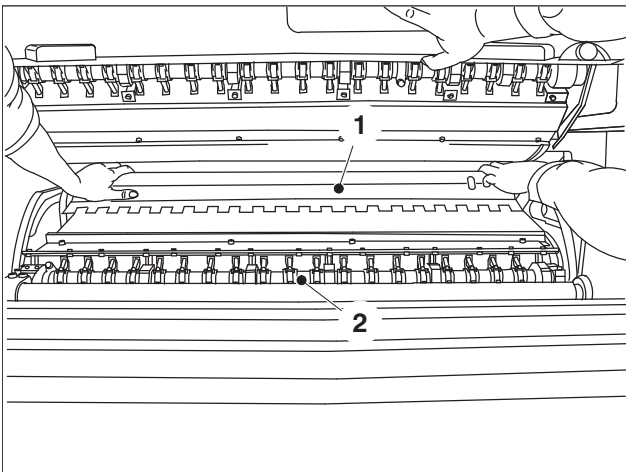

Fig. 23 Removing the sheet guide plate
2. Inch the press until the grippers of the transfer drum are at the top (Fig. 23/2). Continue to inch the press another 10°.
6. Lift the sheet guide plate up (Fig. 23/1) and out of the printing unit.
5. Inch the press until the grippers of the transfer drum are at the top (Fig. 23/2). Continue to inch the press another 10°.